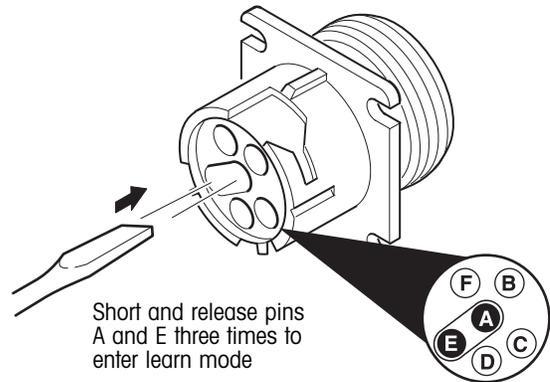

Figure 1. Entering learn mode
3. Remove the weather cap from the diagnostic connector on the HTIS harness (figure 1). Using a screwdriver, short pins "A" and "E" together three consecutive times for the following durations: maintain the short for approximately one second, then release the short for approximately one second. The pins to be shorted are easily identified by the slot in the diagnostic connector shell. This slot allows convenient use of a coin or screwdriver tip to short the pins together.